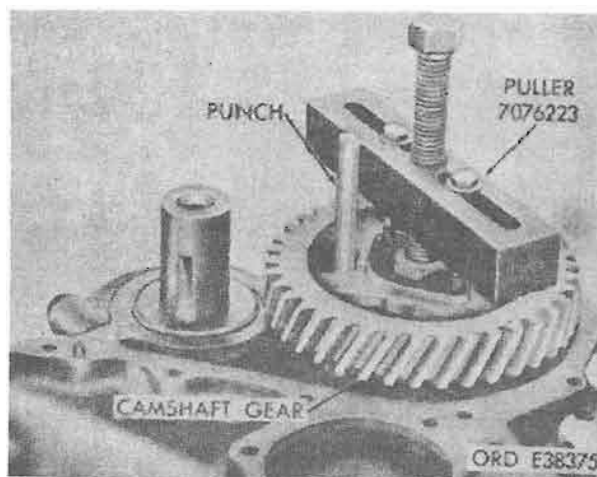

Figure 4-108. Camshaft timing gear removal.
i. **Camshaft Timing Gear.** Install gear puller 7076223 and remove camshaft timing gear (fig. 4-108). Hold camshaft timing gear from turning with a punch or suitable tool.